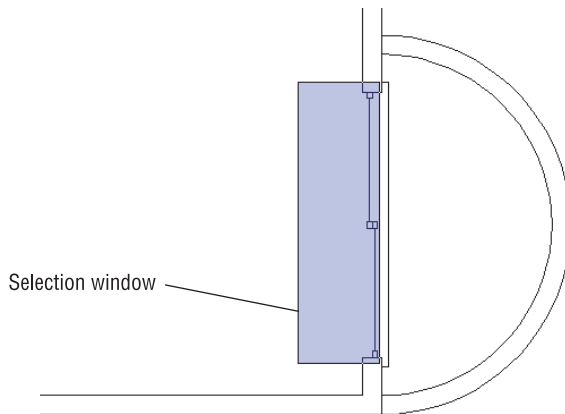

FIGURE 6.18: Using a regular selection window to select the sliding glass door
1. Zoom in to the sliding glass door area. Pick a point to the left of the balcony opening, just above the upper jamb line. Move the crosshair down and to the right until the right edge of the window sits inside the wall but to the right of the sliding glass window frames. When your window is positioned as shown in Figure 6.18, click. The entire sliding glass door assembly will be selected, but not the jambs, walls, threshold, or balcony. Many grips appear: 13 lines make up the sliding glass door, and each has 3 grips. Many of the grips overlap.